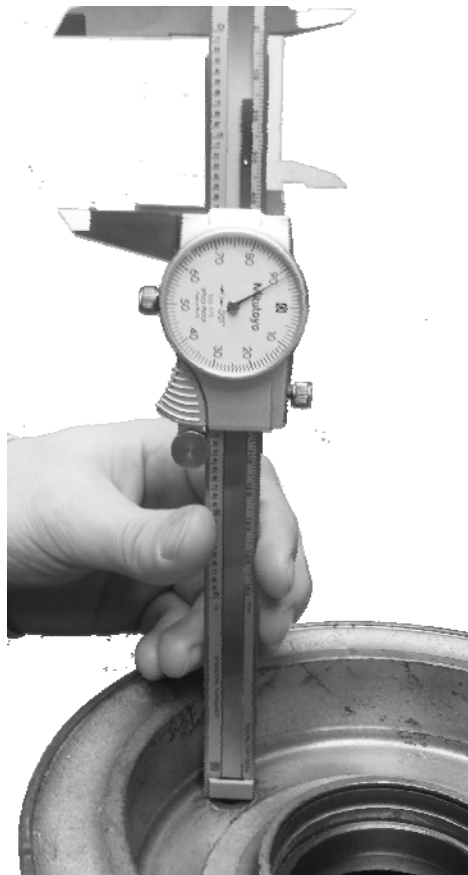

Figure 5 Measure bolt hole length
- (3) Refer to Figure 5. With the wheel register side of each wheel half laying on a flat surface, measure the bolt hole length using the depth gage on a Vernier caliper. Refer to Table 2 for acceptable limits.
- (4) Check the base material for noticeable compression from the washer. This is a result of applying a torque greater than the maximum torque allowed for the wheel nuts. If there is notable compression of the base material, then the wheel half is considered scrap. Refer to E. Inspection Wear Limit Results.